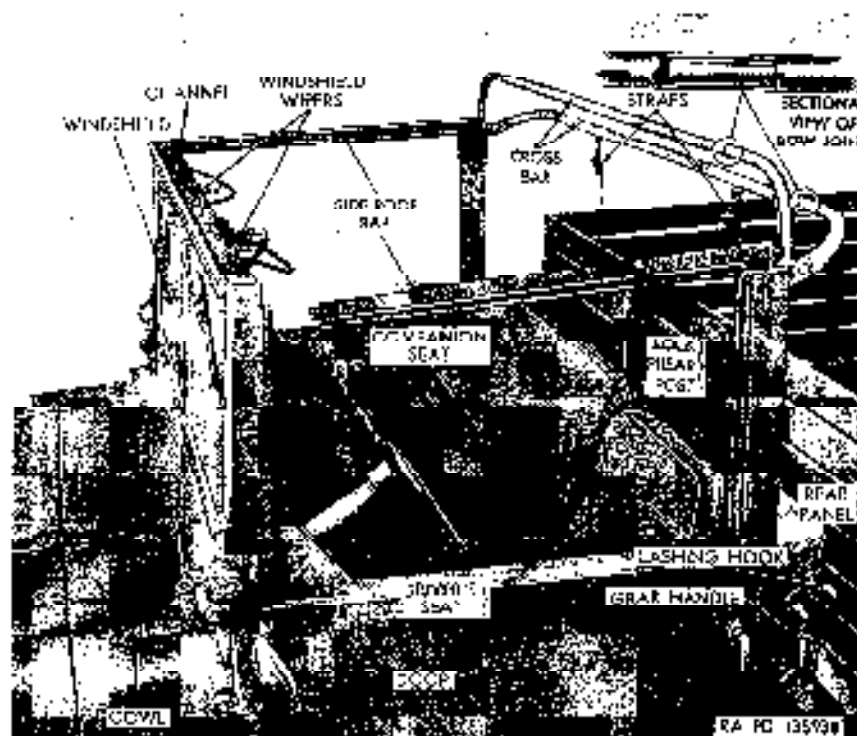

Figure 334. Top left view of cab with top paulin removed.
a. Cab. The cab (fig. 334) consists of the cowl, instrument panel, side panels, doors, rear panels, seats, and floor. Weather protection is provided by the windshield, door glass windows, and top panel. Two windshield wipers are mounted at the top of the windshield frame, and a rear view mirror is mounted on the windshield center post.